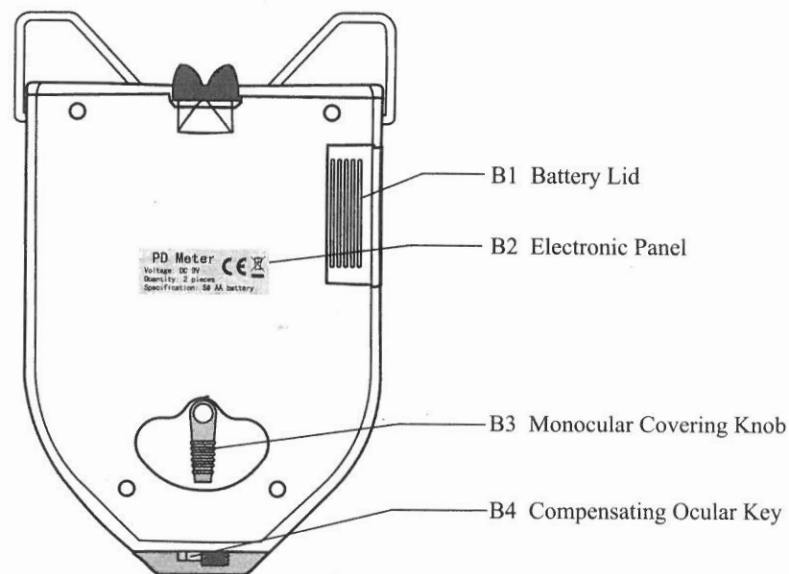

Fig.3
## 3.2 Description of Rear Pane (as shown in Fig.3)
**4.4.1** When needing to measure the left or right pupillary distance, please turn the Monocular Covering Knob (as shown in Fig.3 NO.2) which can cover the other eye completely(as shown in Fig.8a and Fig.8b).